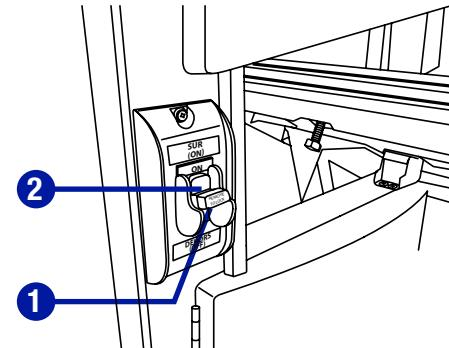

Fig. 21
**ON/OFF SWITCH ASSEMBLY (Fig. 21)**
- Insert switch key (1) into switch (2), and move the switch to the On position to turn On the band saw.
- Move the switch (2) to the Off position to turn Off the band saw.
- To lock the band saw, move the switch to the Off position. Then remove the switch key (1) from the switch and store the switch key in a safe and secure location.